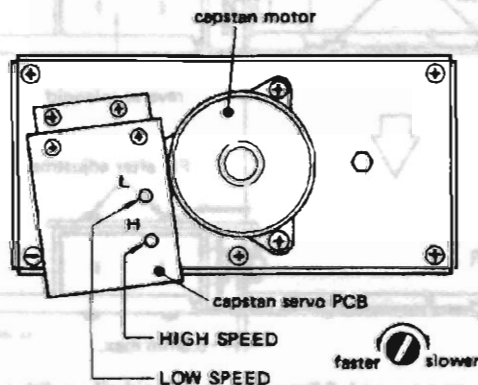

Fig. 2-25
3. Play the tape. Adjust HIGH SPEED control (see Fig. 2-25) for a reading of 3,000Hz $\pm 5\text{Hz}$.